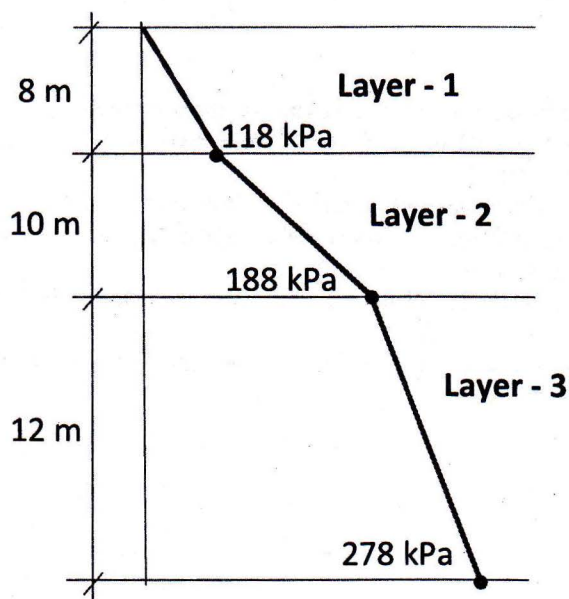

Figure 2
4. For the vertical stress diagram, given in Figure 2,